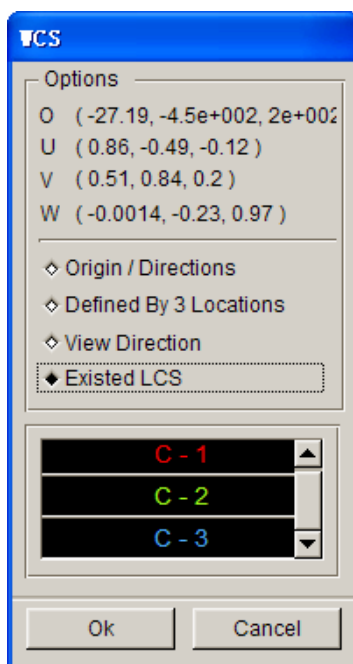

Figure 8.2.18 Define WCS by Selecting LCS
**EXISTED LCS** — This function allows the user to select existing LCS and use the local W axis as WCS as shown in Figure 8.2.18.